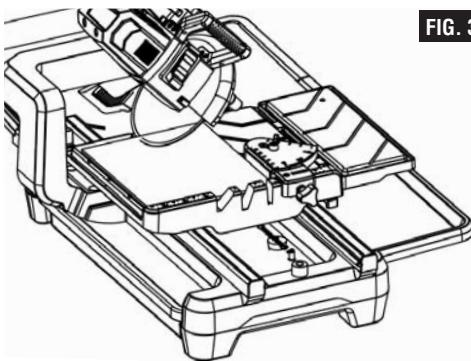

FIG. 35
7. With hands firmly placed on fence and tile at the same time, ease the work table towards the blade to slowly feed the tile into the blade. Continue pushing until the blade cuts completely through the tile (Fig. 35).